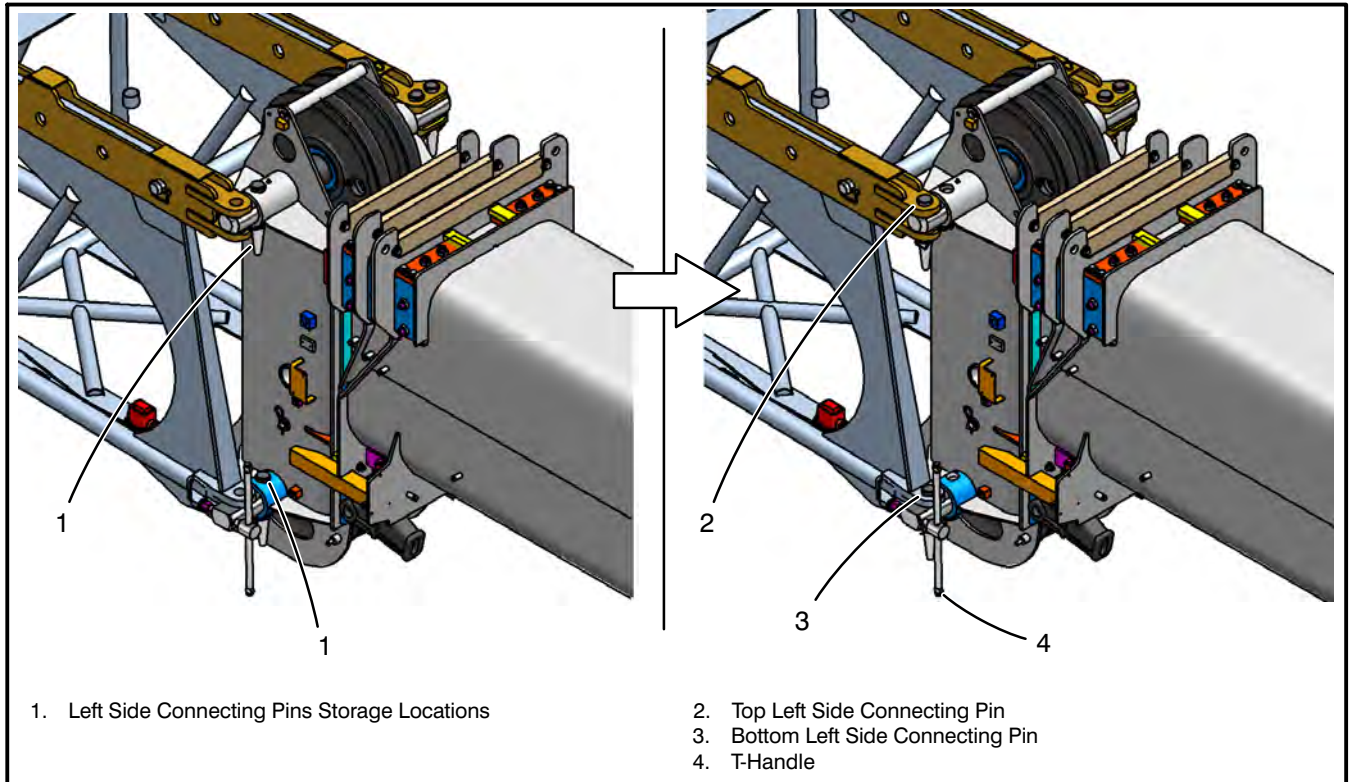

Figure 4-138
18. Remove the two fly connecting pins from the storage location (1) on the boom head machinery cross shafts on the left side of the boom. Refer to Figure 4-138. Install one pin through the top fly lug (2) on the left side of the boom. Turn the t-handle (4) to push and align the bottom left fly lug and the bottom boom head machinery cross shaft. Install the bottom left fly connecting pin (3). (Install the pins with the head on top and the keeper on the bottom.) Install the pin keepers. Back off the t-handle until at least a 1/2 in (1.3cm) clearance from the fly lug is obtained.